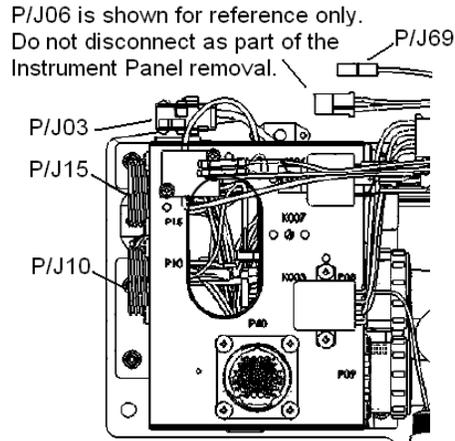

Figure 34-13 Left Hand Side of the Power Distribution Harness Assembly
4. Disconnect the pitot line (violet tubing) from the Airspeed indicator. Disconnect the static line (green tubing) at the altitude encoder system. Cap all lines and/or indicators. For the location of the pitot and static lines, and where to disconnect these lines, see Figure 34-10 and Figure 34-11. Disconnect the single wire connector at P/J69. See Figure 34-13 for the location of P/J69.
6. Disconnect P03, P10, and P15 from their mating connectors on the power distribution bracket. See Figure 34-13 for location of P/J03, P/J10, and P/J15.